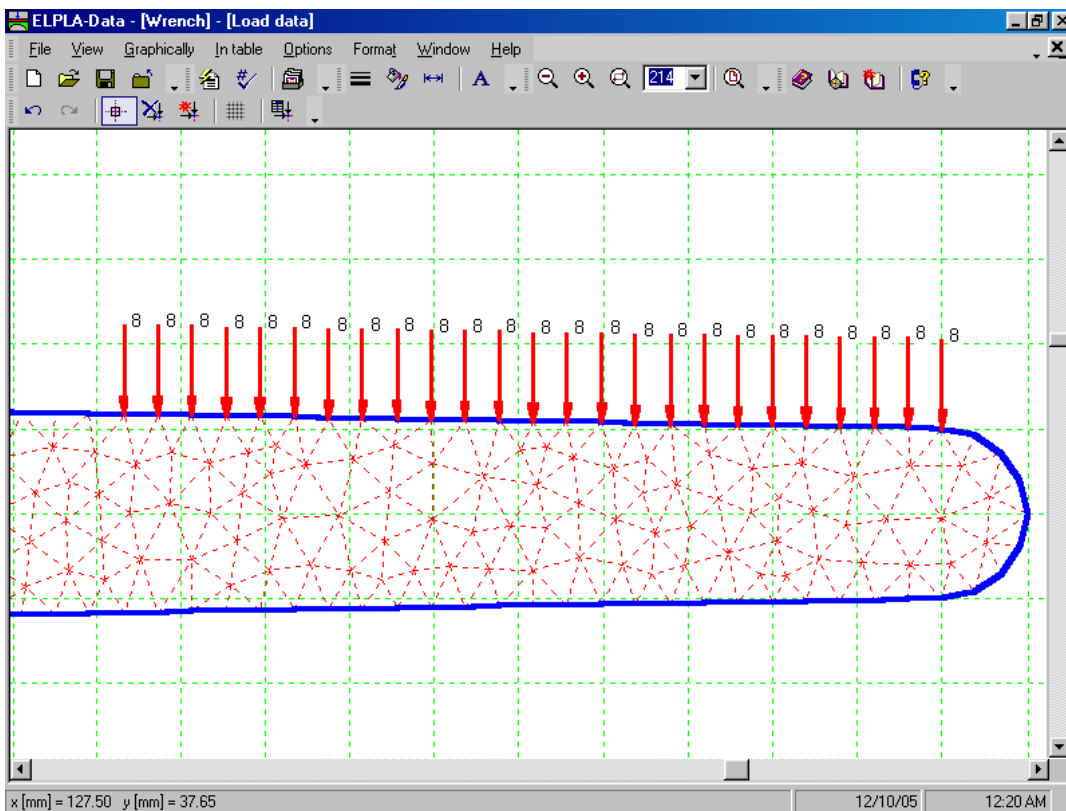

Figure 5-29 Final loads
After you have completed the definition of the concentrated loads, the screen should look like Figure 5-29.
- Choose "Save loads" command from "File" menu in Figure 5-29 to save the load data
- Choose "Close loads" command from "File" menu in Figure 5-29 to close the "Loads" embedded program and return to the main window of *ELPLA-Data*